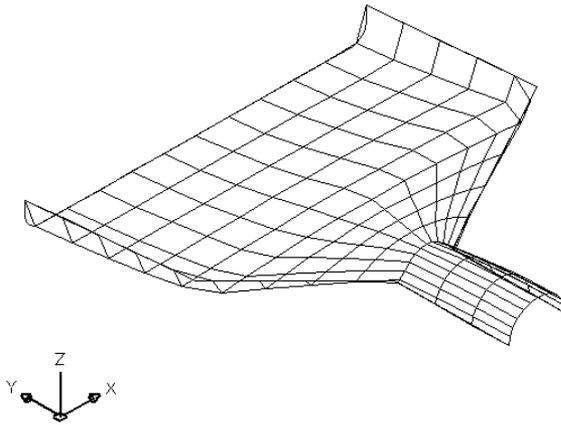

Figure 23-36: The completed dustpan – or starship.
6. Save your drawing. It should look like Figure 23-36. It's either a dustpan or a starship—your choice.